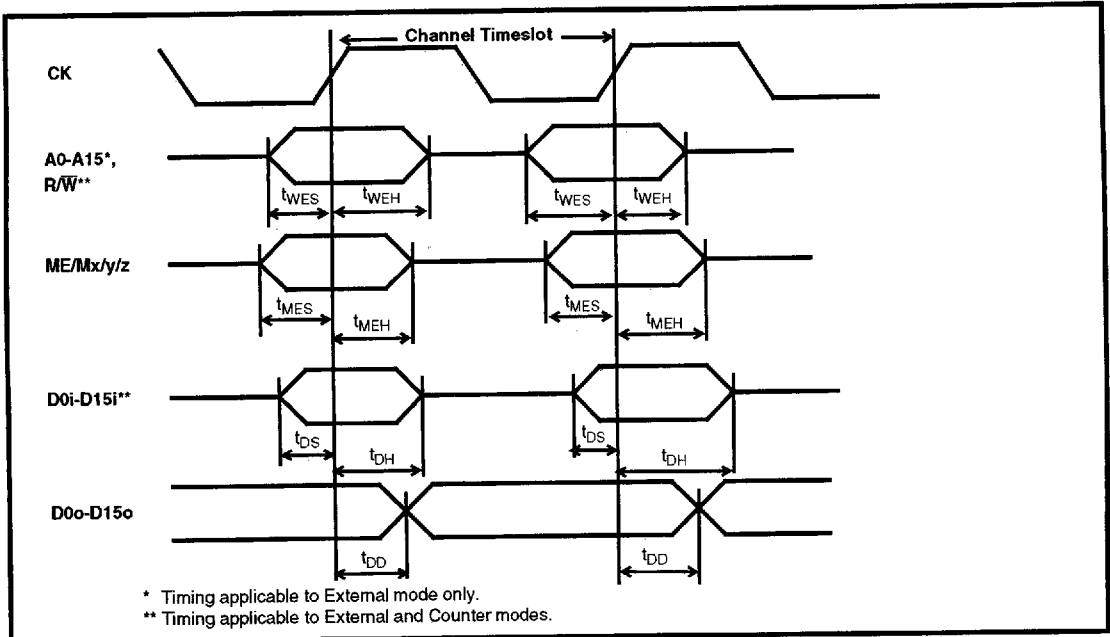

Figure 26 - External, Connect Memory-2 and Counter Mode Timing
**AC Electrical Characteristics† - External, Connect Memory-2 and Counter Mode Timing (See Fig. 26)** - Voltages are with respect to Ground (VSS) unless otherwise stated.